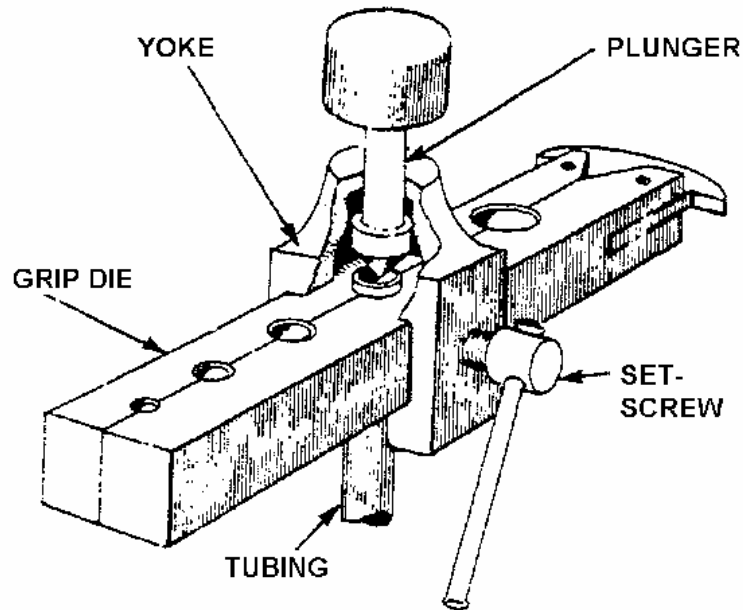

Figure 7. Tube Flaring Tool, Single Flare
17. Preparing Tube Ends For Single-Flare. Use tube flaring tool (Figure 7) to prepare tube ends for flaring as follows: